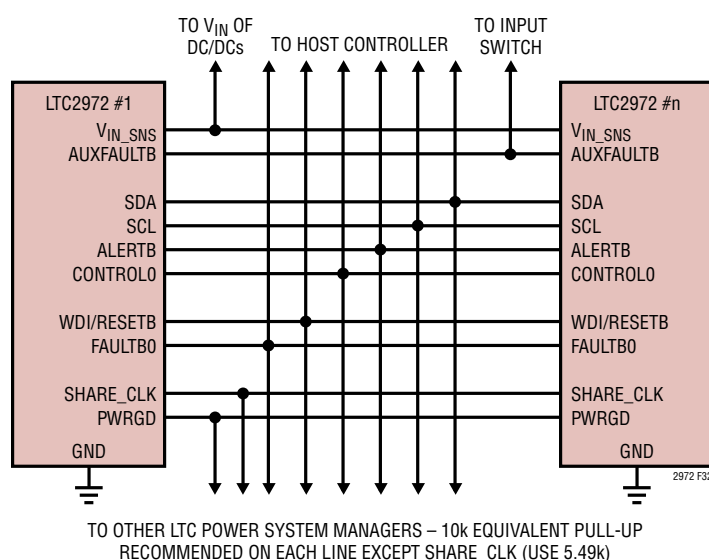
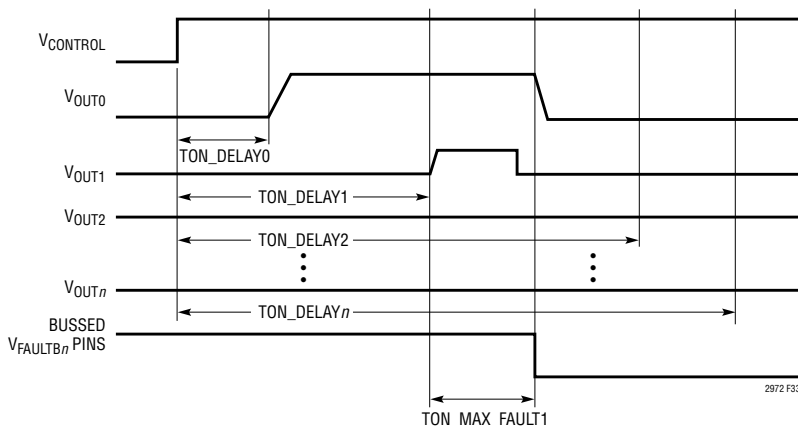

Figure 32. Typical Connections Between Multiple ADI Power System Managers
Figure 33. Aborted On-Sequence Due to Channel 1 Short
Figure 32 shows how to interconnect the pins in a typical multi-LTC2972 array.
- The $FAULTB$ lines can be connected together to create fault dependencies. Figure 32 shows a configuration where a fault on any $FAULTB$ will pull all others low. This is useful for arrays where it is desired to abort a startup sequence in the event any channel does not come up (see Figure 33).
- $PWRGD$ reflects the status of the outputs that are mapped to it by the MFR_PWRGD_EN command. Figure 32 shows all the $PWRGD$ pins connected together, but any combination may be used.